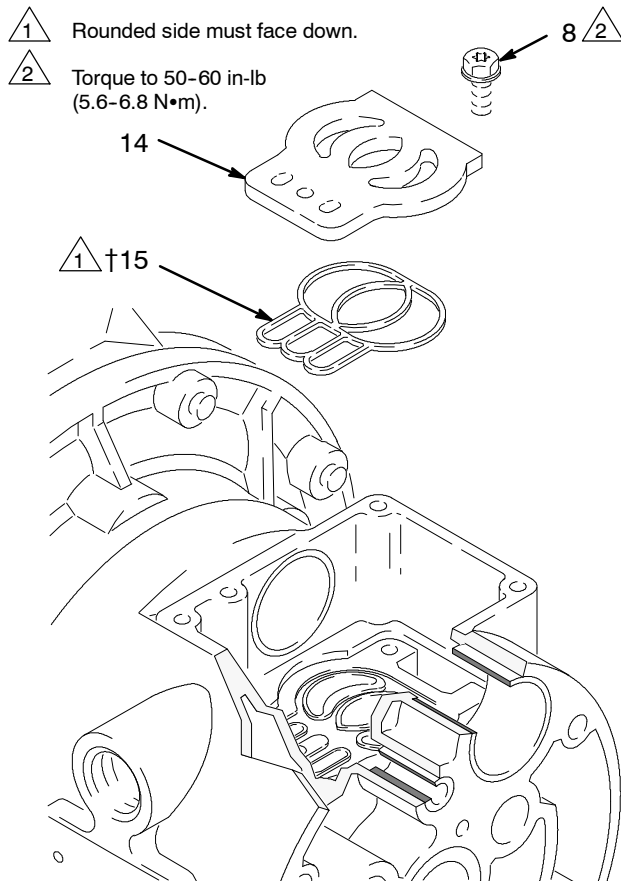

Fig. 11 02645
5. Inspect the valve plate (14) in place. If damaged, use a Torx (T20) screwdriver or 7 mm (9/32") socket wrench to remove the three screws (8). Remove the valve plate (14) and seal (15). See Fig. 11.
2. Install the valve plate seal (15†) into the groove at the bottom of the valve cavity. The rounded side of the seal **must face down** into the groove. See Fig. 11.
3. Install the valve plate (14) in the cavity. The plate is reversible, so either side can face up. Install the three screws (8), using a Torx (T20) screwdriver or 7 mm (9/32") socket wrench. Torque to 50-60 in-lb (5.6-6.8 N•m). See Fig. 11.